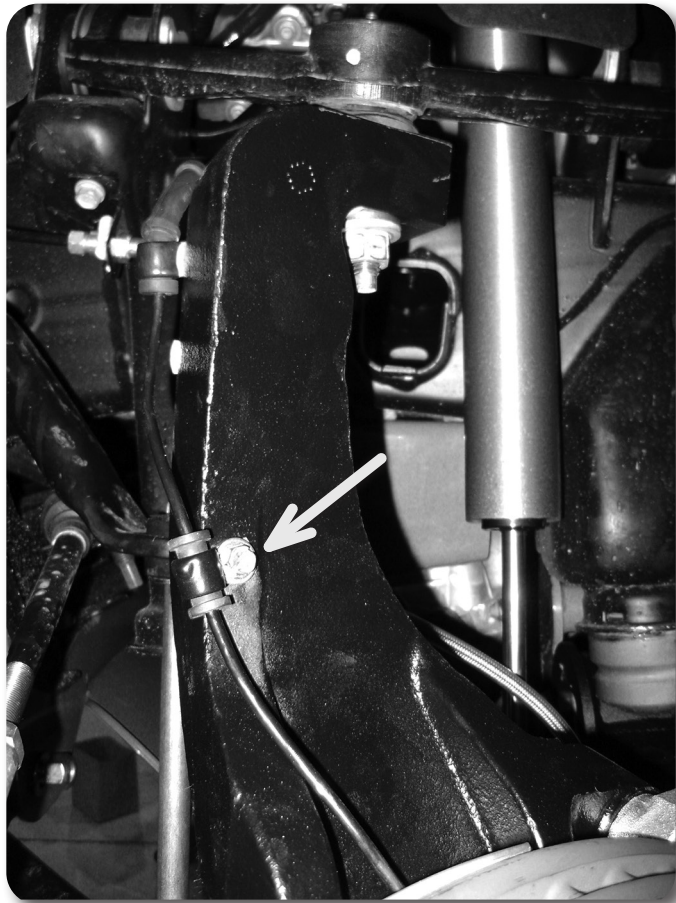

Figure 43B
66. On the front side of the steering knuckle there is a small unthreaded hole. Using a third wire clamp, fasten the ABS wire to the front face of the knuckle with a 1/4" x 5/8" bolt, flat washer and lock washer. Tighten securely. Figure 43B Adjust the slack in the two other lines, rotating the steering knuckle back and forth as a check, and tighten the upper two clamps to 10 ft-lbs.